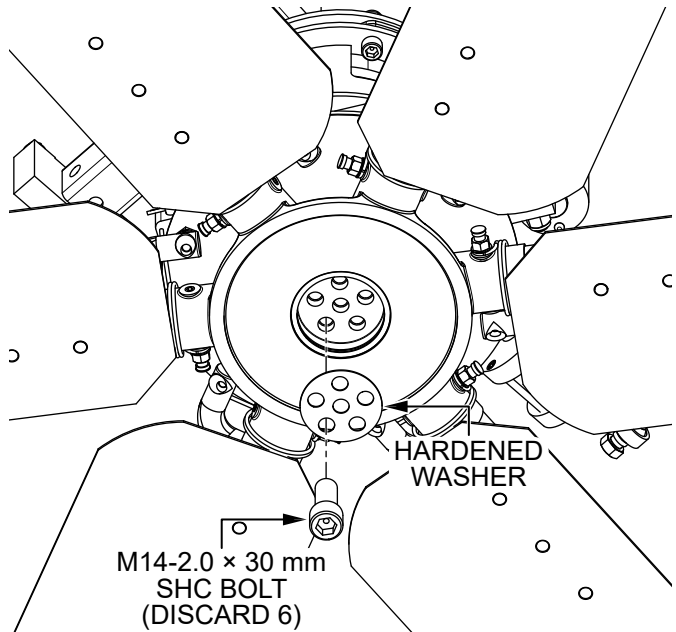

Figure 58. Remove Left-Side Spider Hardware
3. Remove and discard the **six M14-2.0 × 30 mm SHC bolts** and **one hardened washer** (Figure 58) securing the left-side spider assembly to the bottom of the left-side hydraulic motor.